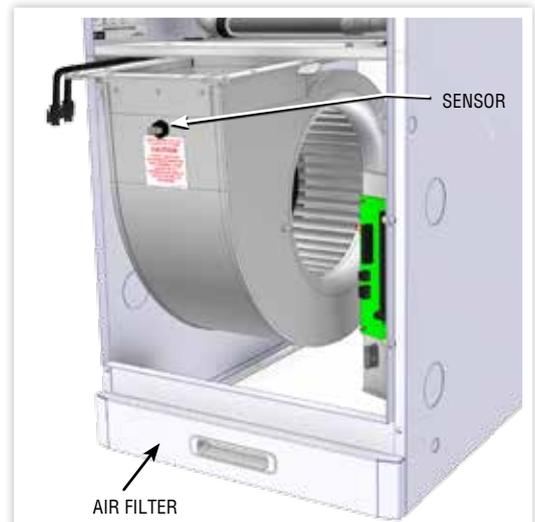

FIGURE 23.
16.8.3 Release the fan assembly securing screws, slide the fan assembly forwards on the runners and drop down, remove from the heater cabinet. Avoid damaging the fan blades. See Figure 23.